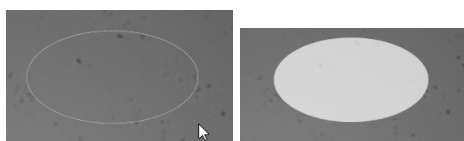

Figure 3-50 Drawing an ellipse (l), ellips ready (r)
6. Press **ELLIPS** to draw an ellipse, see Figure 3-50.